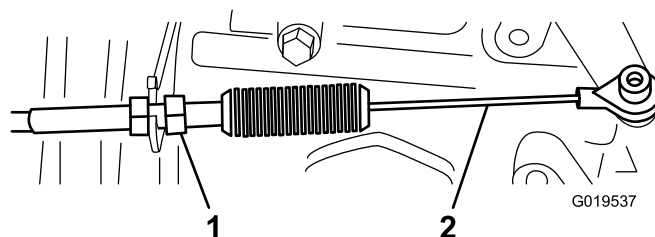
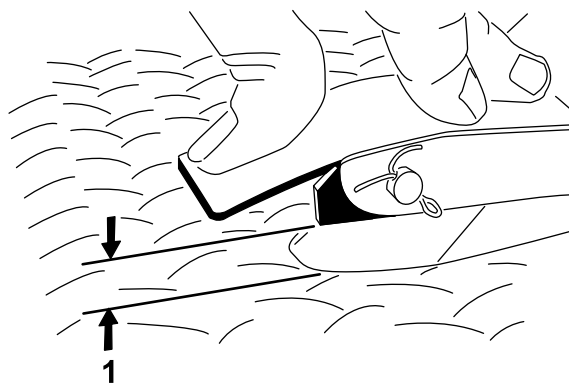

Figure 67
Figure 68
2. Adjust the ball joint on the accelerator cable (Figure 67) to allow 2.54 to 6.35 mm (0.100 to 0.250 inch) of clearance between the accelerator-pedal arm and the top of the diamond tread floor plate (Figure 68), when a 11.3 kg (25 lb) force is applied to the center of the pedal.
3. Tighten the locknut (Figure 67).